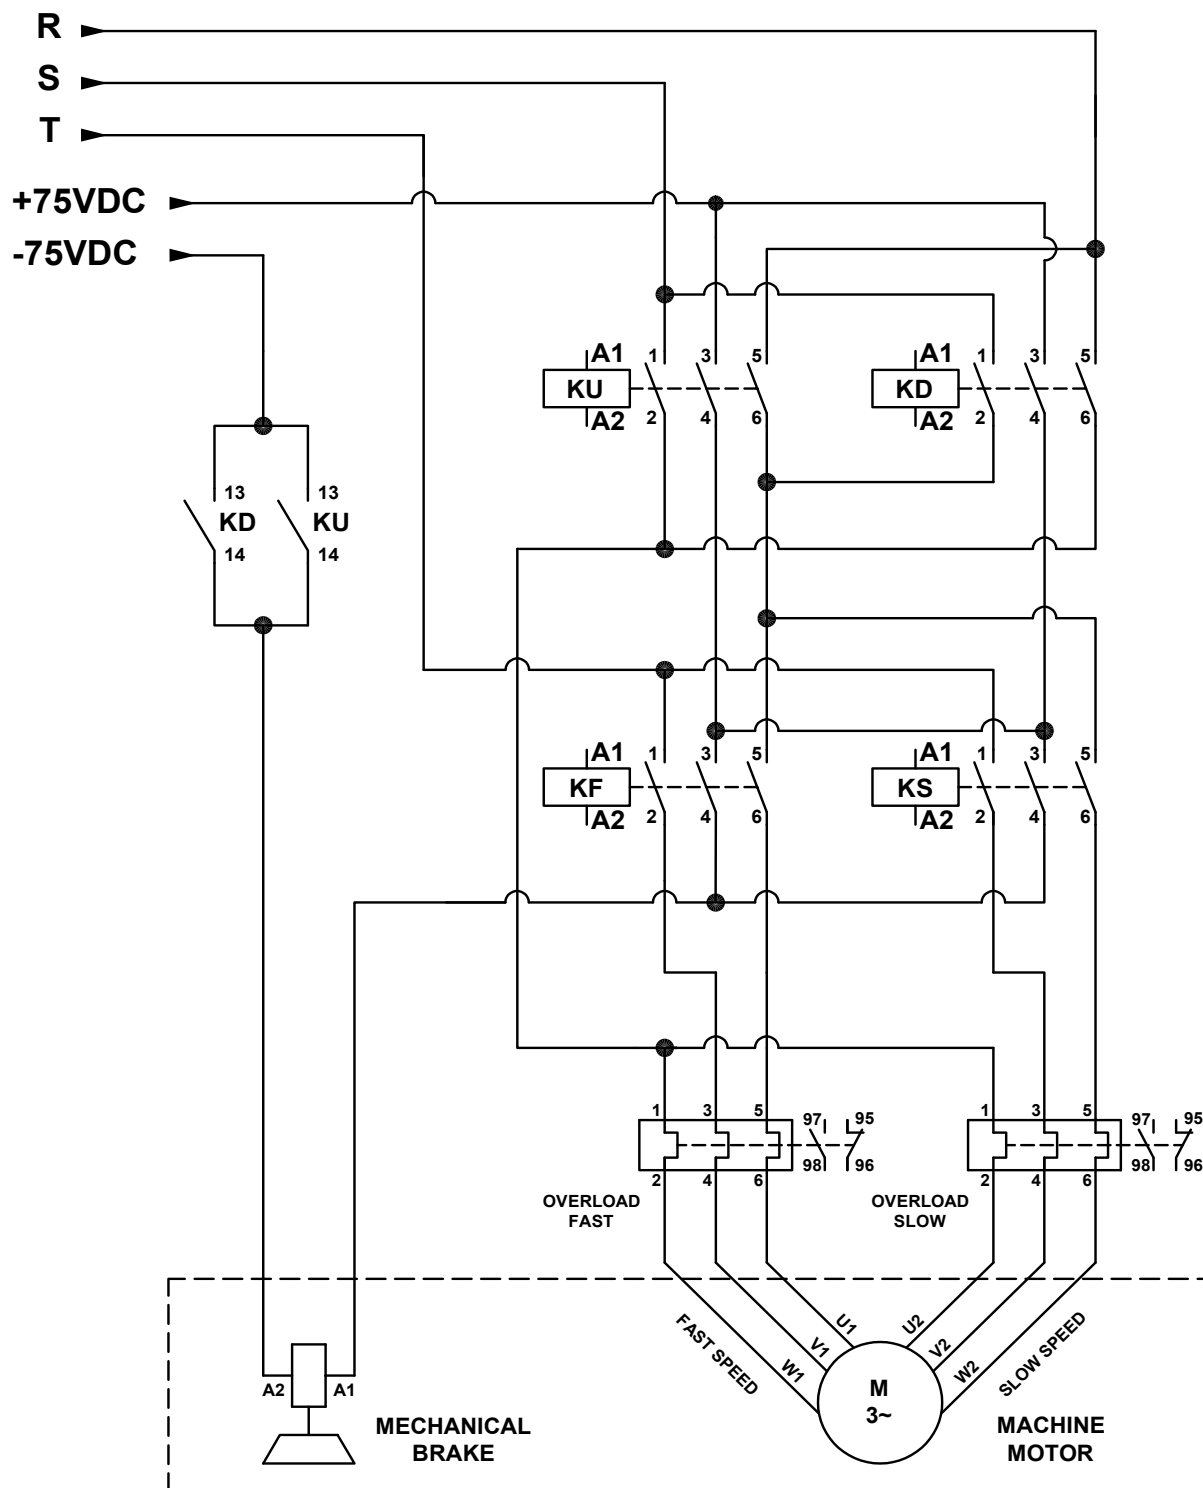

Figure 22.0 - Three-Phase and Brake Connections
The terminals of operating the Three-Phase Distribution on the Motion contactors are wired and connected as illustrated in Figure 22.0.
- Figure 22.0 illustrates the distribution of the three phases on the motion contactors (Fast, Slow, Up and Down), alongside the method of connection and operation of the system brakes.
- Figure 22.0 represents the condition that the system brake is operated with 75V DC.